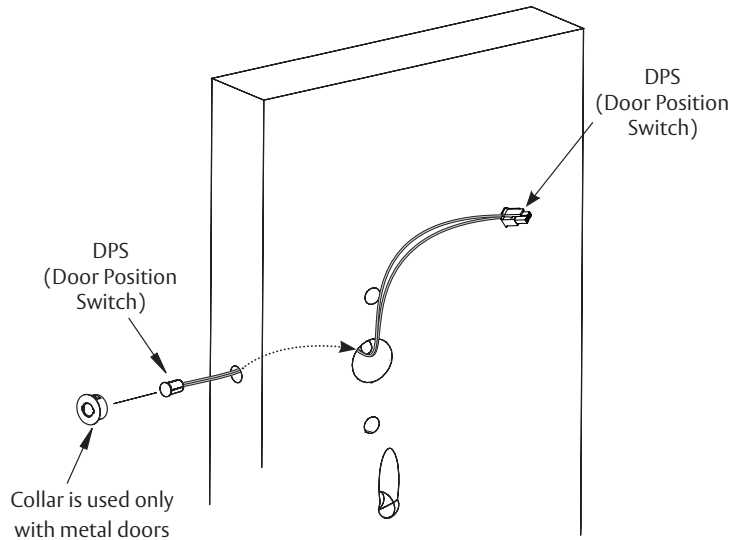

Fig. 14
b. Insert connector end of DPS through raceway on latch edge of door. (Figure 14)